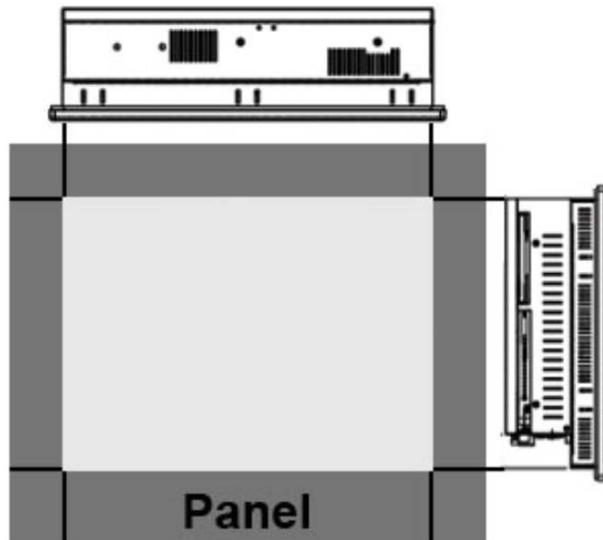

Figure 3-14: Cut the Panel
- Step 2:** Cut out a section of the panel that corresponds to the rear panel dimensions of the PPC-5170. Take care that the panel section that is cut out is smaller than the overall size of the metal frame that surrounds the PPC-5170 but just large enough for the rear panel of the PPC-5170 to fit through (**Figure 3-14**).